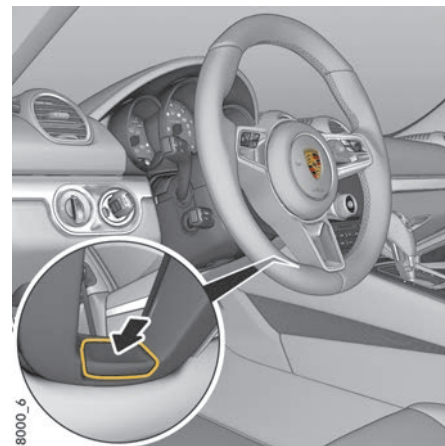

Fig. 211: Heated steering wheel button
- ▶ Press the button on the central steering wheel spoke (Fig. 211) until the message "**Heated steering wheel on**" or "**Heated steering wheel off**" appears briefly on the multi-function display.